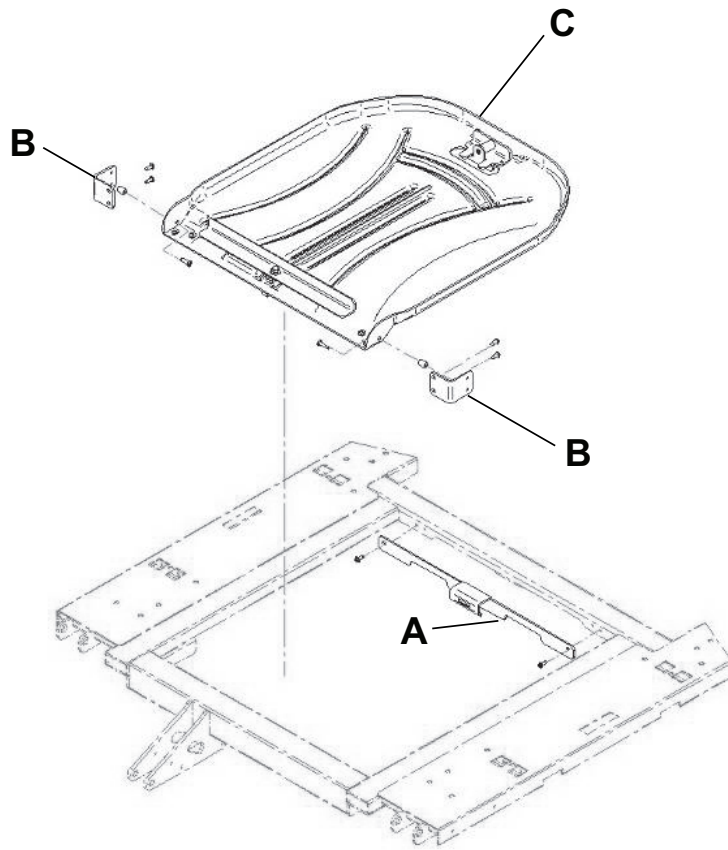

Figure 121 – X-ray cassette holder
3. Turn the battery switch to the OFF (O) position.
5. Using a #2 Phillips screwdriver, install two screws to secure the fastener (A) to the top of the Fowler frame (Figure 121).
6. Using a #2 Phillips screwdriver, install four screws to secure the two cassette holder pivot brackets (B) into the lower Fowler section.
7. Using a #2 Phillips screwdriver, install two screws and two spacers to secure the X-ray cassette holder (C) into the cassette holder pivot brackets (B).